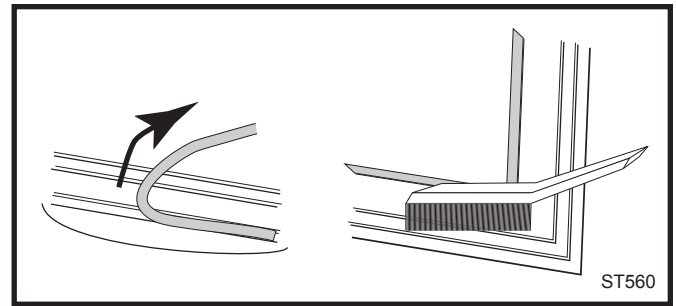

Fig. 33 Remove gasket then clean channel with wire brush.
2. Use a wire brush or the tip of a screwdriver to clean the channel of any remaining cement or bits of gasket. (Fig. 33) Remove stubborn deposits of cement with a cold chisel if necessary.